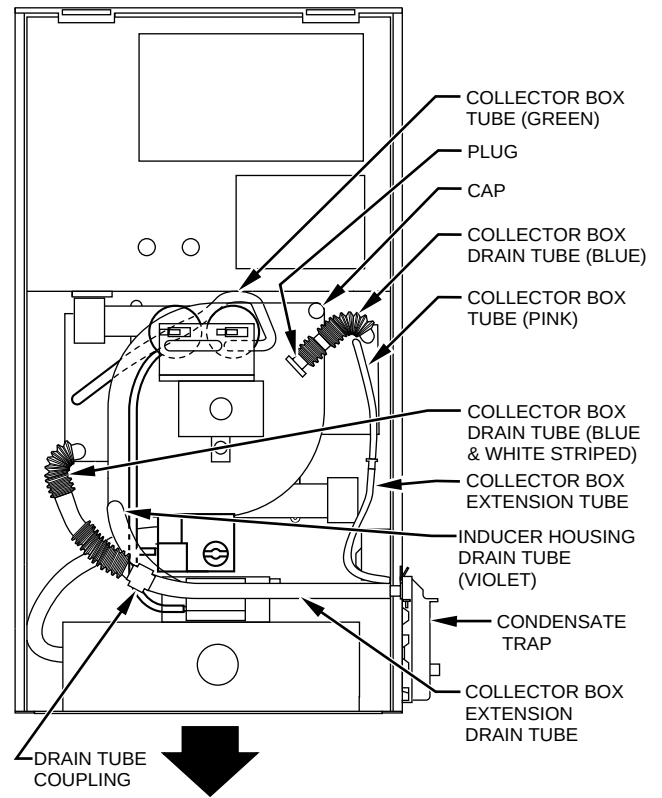

**Fig. 8—Downflow Tube Configuration
- (c.) Route extended collector box drain tube between gas valve and inlet housing as shown in Fig. 8.